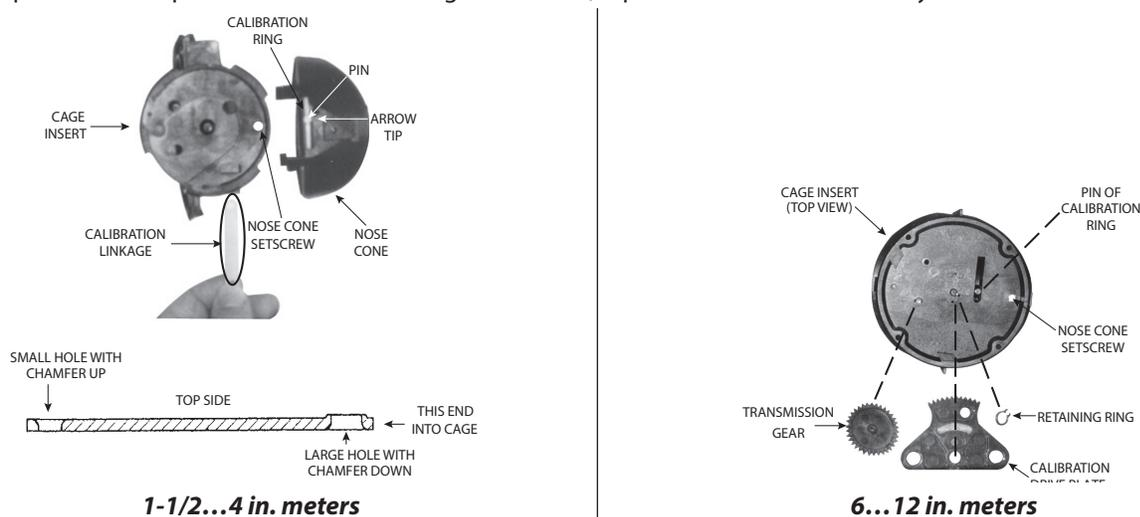

Figure 5: Calibration ring/linkage assemblies
2. Take hold of the nose cone/straightening vanes and turn them clockwise, thereby disengaging the calibration linkage from the pin on the calibration ring and unlocking the bayonets of the nose cones from the cage (see Figure 5).
1. Align the pin on the perimeter of the calibration ring with the arrow tip on the nose cone assembly (see Figure 5).
2. For 1-1/2...4 in. sizes, install the calibration linkage into the cage with the larger hole first to engage the calibration ring pin, with the side of chamfered edge of the hole towards the nose cone assembly (see Figure 5).